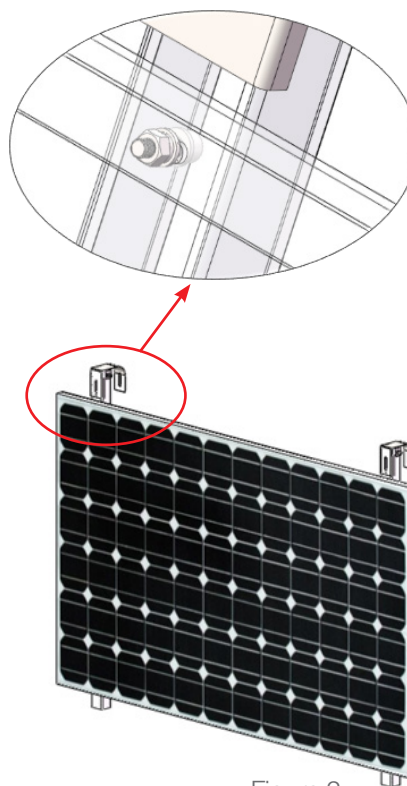

Figure 2
4.1.3 Fix the PV module and bracket with M6\*20 screw (two plain washer, one washer, nut and screw), fasten the screws from top to bottom after position is determined, as shown in Figure 2.